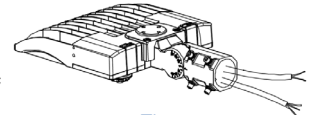

Fig. 2
2. Install the bracket on the fixture (Fig. 2).